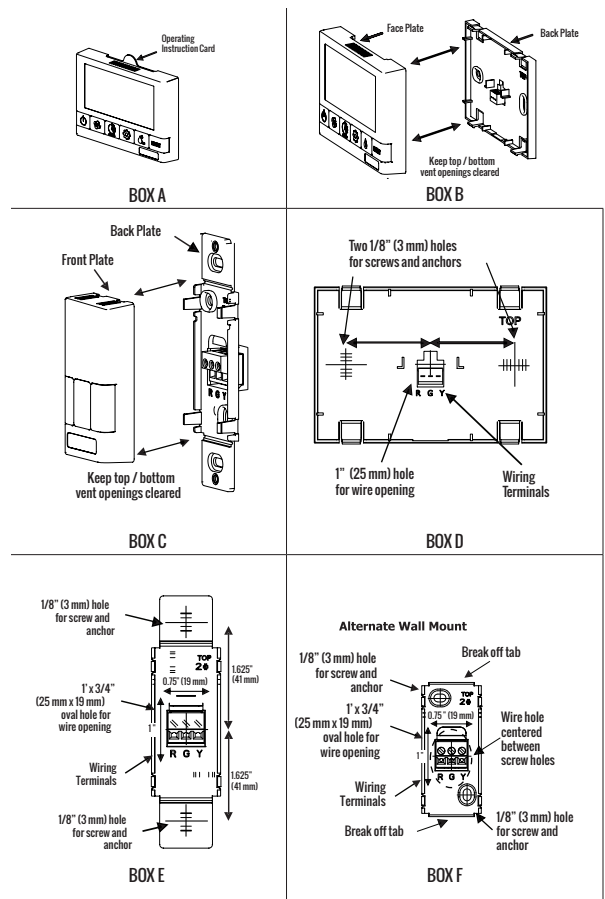

Figure 30. Installation of Controls
2. Pairing PrecisionSYNC Control (435244): Press the left and right buttons simultaneously on the control  and RESET buttons. The screen will go blank and the wireless symbol  appear flashing on the bottom right of the display. This indicates that the control is now in pairing mode (Figure 30, Box D).
3. Pairing 20/40/60 Minute Wireless Timer (435248) with Two-Speed Switch with Humidity Sensor (435245) and Two-Speed Switch with Intermittent Mode (435246): Press the left and right buttons simultaneously on the control  and  buttons). The bottom row of three LEDs will begin flashing. This indicates that the main control is now in pairing mode (Figure 30, Box E).
1. Separate the face plate from the back plate by firmly pulling apart (Figure 30, Box A).
2. For mounting the control without a decorative plate, break off top and bottom tabs and refer to Figure 30, Box C for mounting.
3. Place the back plate of the control in the desired location on the wall and pencil mark the top and bottom screw holes (Figure 30, Boxes B or C). Drill two 1/8" (3 mm) holes.
5. Attach the face plate to the back plate (Figure 30, Box F).